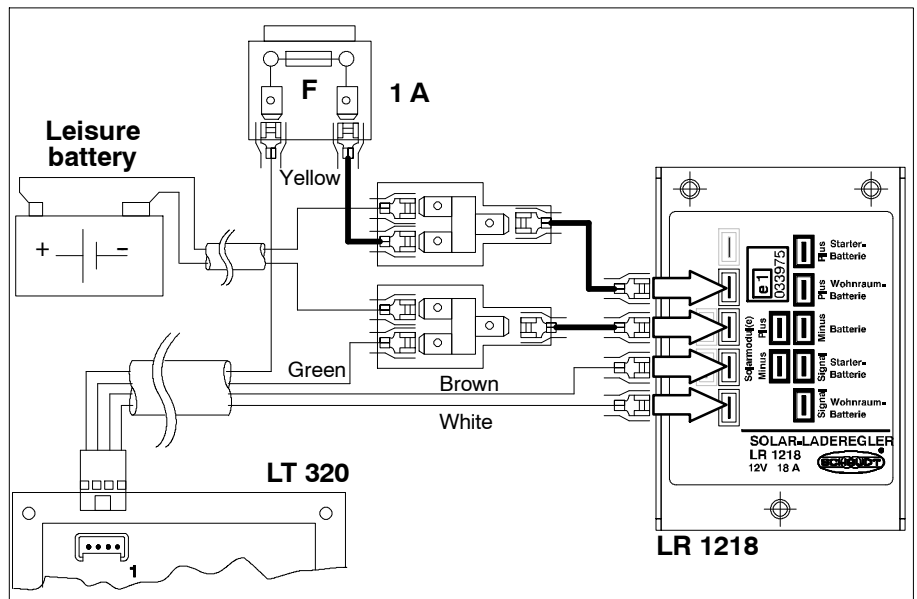

Fig. 3 Circuit diagram for connecting the LT 320 to the LR 1218 (the solar module and starter battery connectors are not shown)
- Plug the 4-pin Lumberg connector on the relevant connector cable into the LT 320 control panel (see Fig. 3).
- Establish the connection on the LR 1218 solar regulator as in Fig. 3.